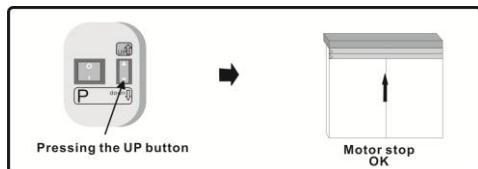

Fig.12
2.5 Move the shutter to the top end limit by pressing the UP button until the motor stops. Refer to Fig.12